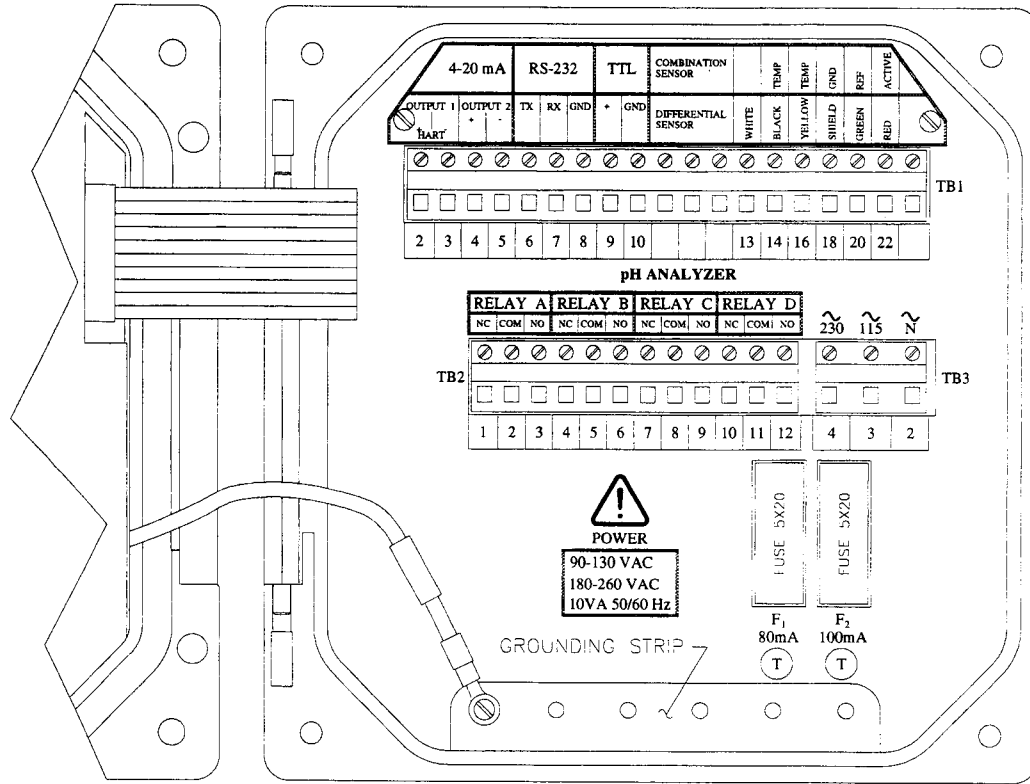

FIGURE 2-3 Terminal Block Designations for Analyzers
To access terminal blocks for electrical connections, open the left-hinged enclosure door by unscrewing the four fasteners. Figure 2-3 or 2-4 shows the terminal block arrangement and terminal designations inside the analyzer.
- The grounding strip at bottom of case (5 open holes, Fig. 2-3) for analyzers with "B" prefix serial numbers.